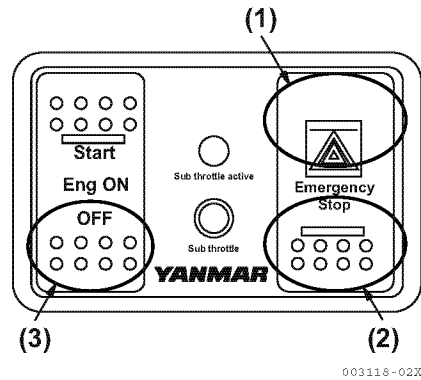

Figure 6
3. Push OFF (bottom half) of ignition switch (**Figure 6, (3)**).
Push the upper part of Emergency Stop switch (**Figure 6, (1)**) on the right of the panel and the engine shuts down immediately, without the time lag of regular engine shutdown. After shutdown push the bottom part of the emergency stop switch (**Figure 6, (2)**) to be returned to the former position.
IMPORTANT! Use this switch only in an emergency. Under normal circumstances, use the OFF, ON, START switch (**Figure 6, (1)**) to stop the engine.